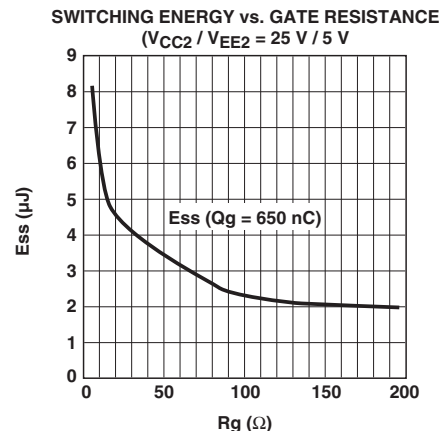

Figure 77. Switching energy plot for calculating average P_{switch} (for HCPL-316J output driving an IGBT rated at 600 V/100 A).
2. Calculate total power dissipation in the part referring to Figure 77. (Average switching energy supplied to HCPL-316J per cycle vs. R_G plot);
For $R_G = 10.5$, the value read from Figure 77 is $E_{SWITCH} = 6.05 \mu\text{J}$. Assume a worst-case average $I_{CC1} = 16.5 \text{ mA}$ (which is given by the average of I_{CC1H} and I_{CC1L}). Similarly the average $I_{CC2} = 5.5 \text{ mA}$.
$P_i = 90.8 \text{ mW}$, $P_o = 217.3 \text{ mW}$, $T_A = 100^\circ\text{C}$, and assuming the thermal model shown in Figure 77 below.